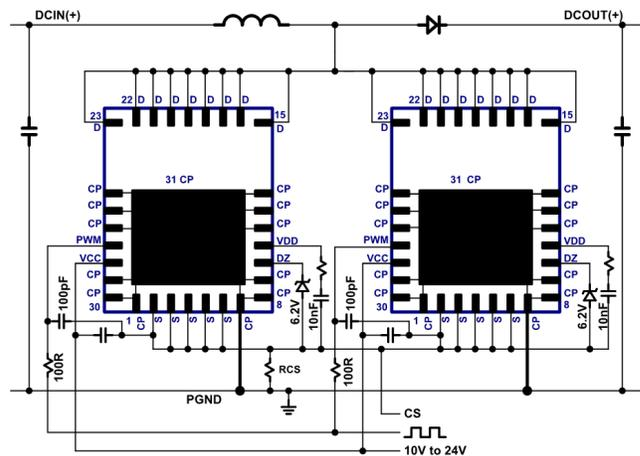

Fig. 25. Boost schematic using two parallel ICs
For some applications it is desirable to parallel ICs in order to reduce conduction losses and temperatures. Two NV6125 ICs can be connected in parallel in a PFC boost application working in boundary-conduction mode (BCM) only. The parallel configuration for two NV6125 ICs is shown in Fig. 25. The paired pins that are connected together include the drain pins (D), the source pins (S), the VCC pins, the PWM pins, and the D_Z . A single D_Z diode can be shared by both ICs. The V_{DD} pins are not connected together and require separate V_{DD} supply capacitors (C_{VDD1} , C_{VDD2}) and separate turn-on current set resistors (R_{DD1} , R_{DD2}). Each IC should have its own local VCC supply filter capacitor (C_{VCC1} , C_{VCC2}). The PWM pins can have a single filter resistor (R_{PWM}) but separate filter capacitors (C_{PWM1} , C_{PWM2}) should be placed at the PWM pin of each IC. When designing the PCB layout for the two paralleled ICs, the drain and source connections should be made as symmetrical as possible to avoid any parasitic inductance or capacitance mismatch.